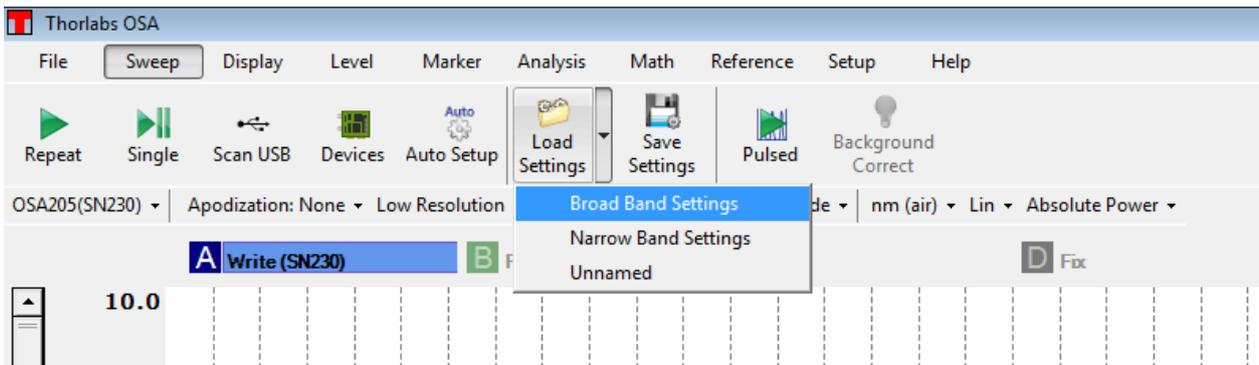

Figure 71 “Load Settings” Button, Allowing Saved Parameter Settings to be Quickly Loaded and Applied to Setups
2. Clicking on the “Load Settings” button will bring up the “Load Acquisition Settings” dialog (see Figure 71). Here you have the possibility to carefully inspect the settings behind a saved name before loading the settings. It is also possible to rename or delete a stored parameter setting from the menu that is displayed when right clicking on any element on the list.